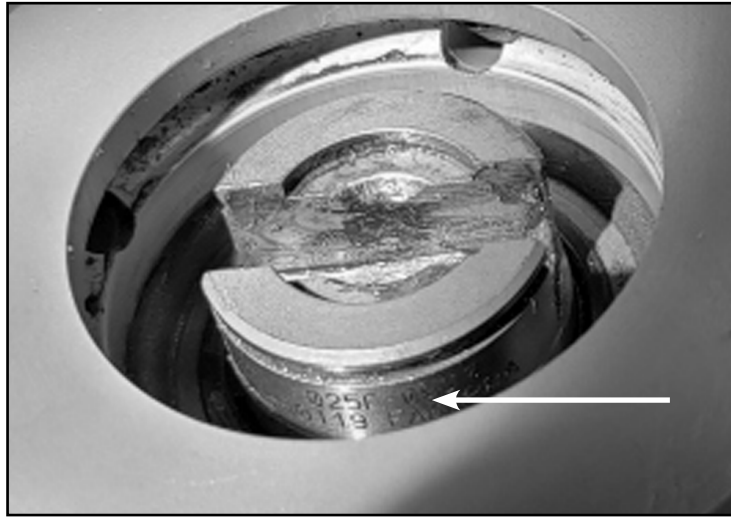

Figure 2 - Rotor Inspection -
- (2) Inspect the OD of the rotor shaft (Figures 2 and 2A) for a rotor inspection marking.